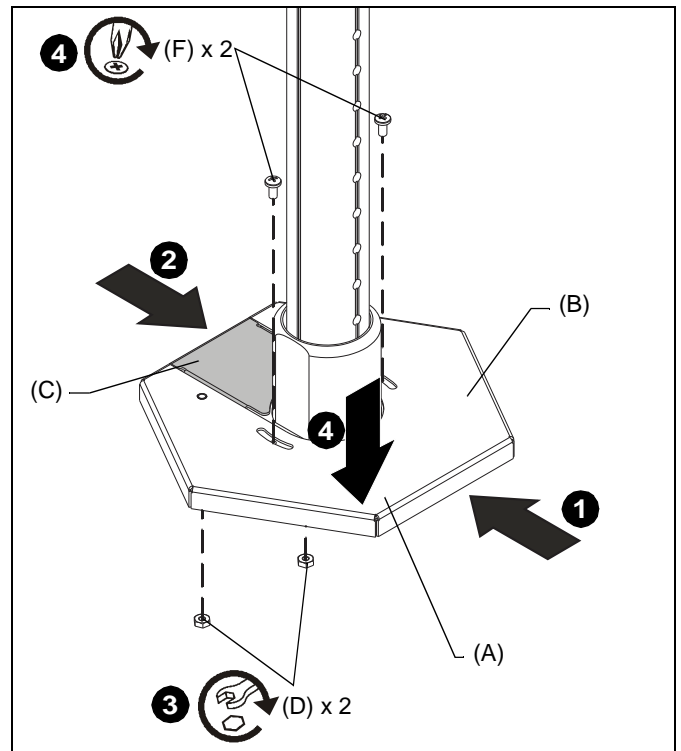

Figure 5
1. Slide the floor plate cover (B) against the flange (A) on one side of the extension column. (See Figure 5)
2. Hold floor plate cover (B) up and slide the fill-in piece (C) into the space in the floor plate cover (B), lining up the holes in the fill-in piece under the studs in the floor plate cover (B). (See Figure 5)
3. Fasten the floor plate cover to the fill-in piece using two 8-32" hex nuts (D).
4. Lower the floor plate cover over the flange and fasten in place using two 10-24 x 3/8" Phillips head screws (F). (See Figure 5)